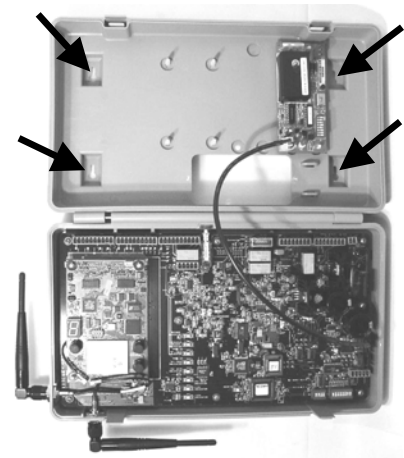

Figure 10. Open base station showing four screw holes
- Hold the base station, with its door open, against the wall at the desired mounting location, and mark the wall through the four screw holes on the back of the cabinet as shown in Figure 10.
- Carefully position the three holes in the VDB over the three plastic standoffs at the upper right side, inside the base station as shown in Figure 10. Press on the VDB until the tips of the three standoffs snap through the holes in the board.